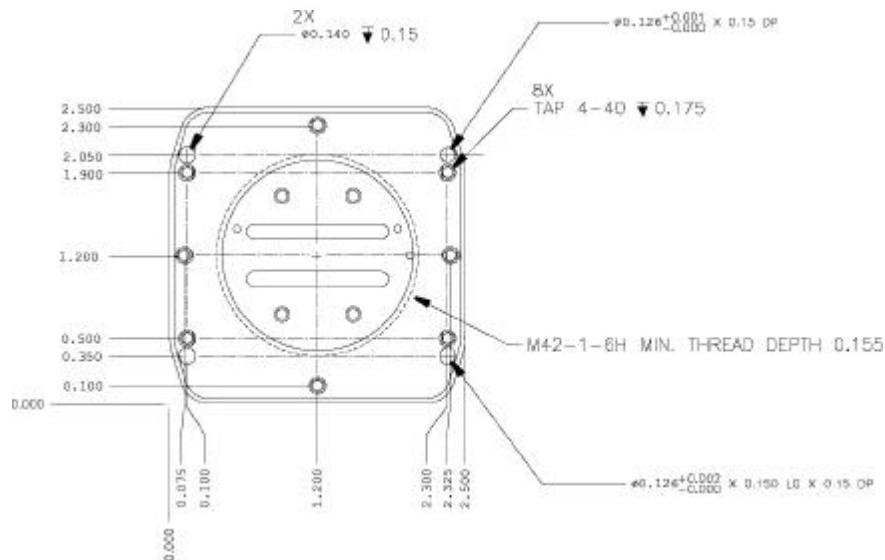

Figure 6 Camera Front Face Attachment Point Definition
The LC3000 series cameras provide threaded mounting holes on the front face of the cameras to allow the attachment of custom lens adapters. The lens mount is a M42 x 1 (Pentax) thread. PerkinElmer can provide such optical components as lenses, C and F style lens adapters, extension tubes, and focusing systems. Figure 6 shows the location of mounting holes and registration holes for the attachment of custom lens adapters.
1. Contact PerkinElmer for recommendations on the frame grabber interface and for the required lens adapter. Attach the lens adapter to the camera and install the lens. For camera front face attachment points see Figure 6 on page 12